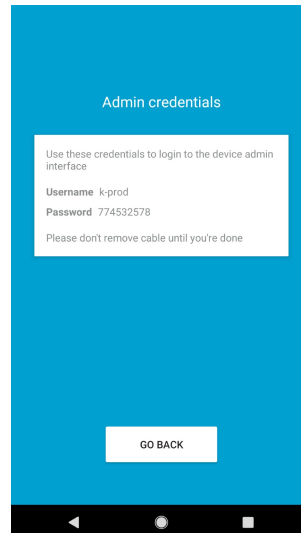

Figure 13
- If **Show admin credentials** is clicked, a one time password for the encoder web interface will be shown (see example in *Figure 13*). See chapter 5 for details about the web interface.